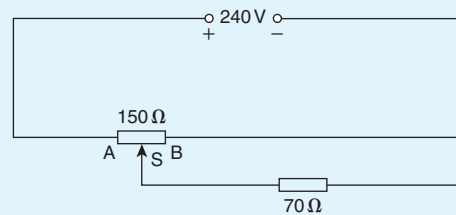

Figure 5.48
5. For the potentiometer circuit shown in Fig. 5.48, AS is 60% of AB . Calculate the voltage across the $70\ \Omega$ load.